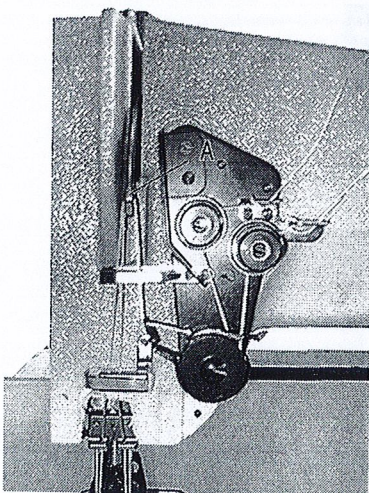

Fig.35
- A. when the connection belt removed from the pulley for adjusting and or replacing purposes of the parts, it should be replaced by the processes, as followings: (Figs. 35 & 36)
1. Turn the machine pulley toward you so that placed the take-up lever (A) at the highest position.
2. Turn the hook shaft with the fingers until the arrow mark on the hook driving shaft bushing collar (2) and the red point mark on the hook driving shaft bushing (1) are directly in line. Then replace the belt over the upper and lower pulley.